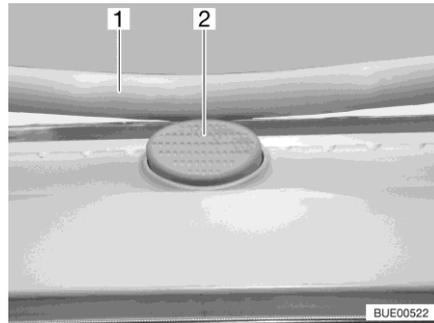

Fig. 115 Safety knob (Heki skylight)
- Press the safety knob (Fig. 115,2) and pull the bar (Fig. 115,1) down with both hands.
- Push the bar upwards with both hands until it is above the safety knob (Fig. 115,2).